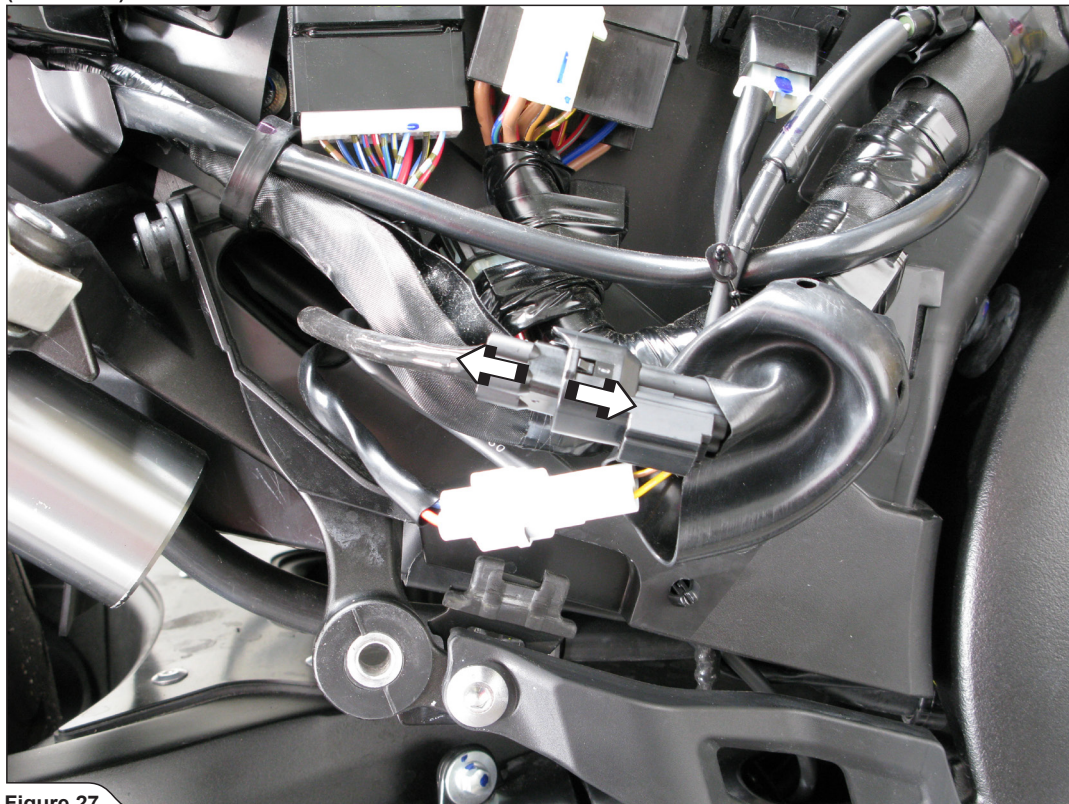
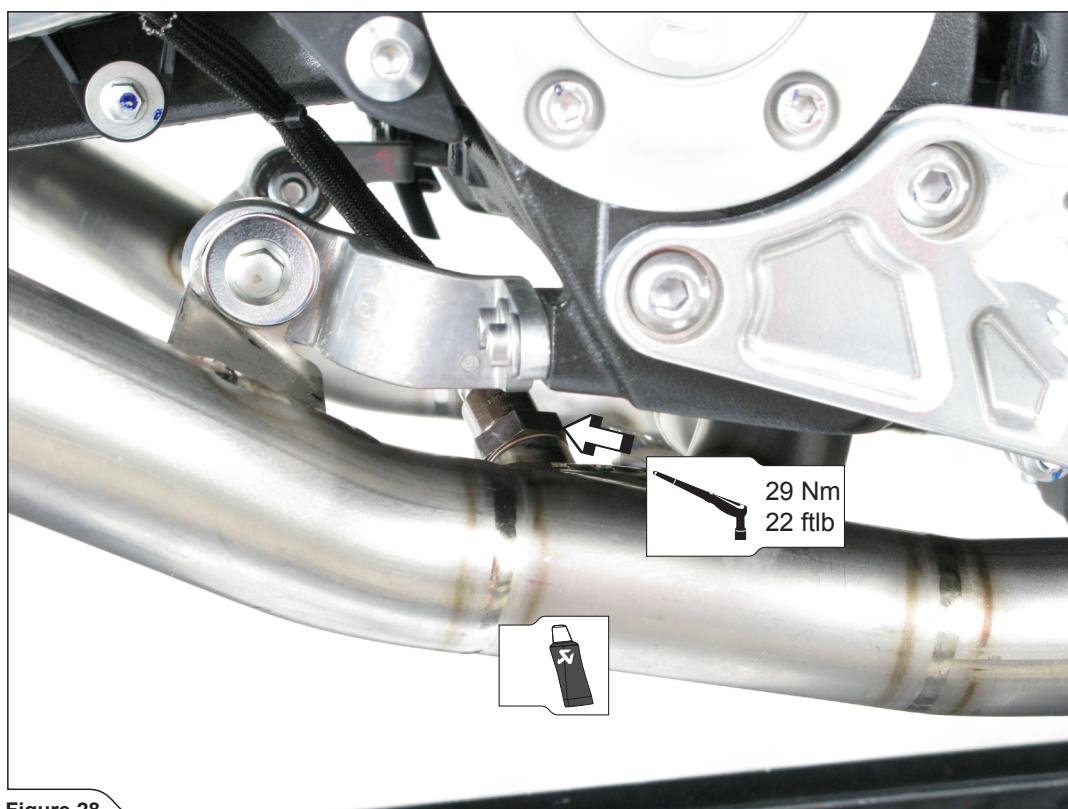

Figure 27
Figure 28
6. **For OPEN SLIP-ON only:** disconnect the connector of the lambda sensor and correctly reposition the electrical lead of the lambda sensor, so it can be installed onto the Akrapovič collector (Figure 27). Tighten the lambda sensor and attach the electrical lead of the lambda sensor using plastic ties; cut away excess (Figure 28, 29, 30).